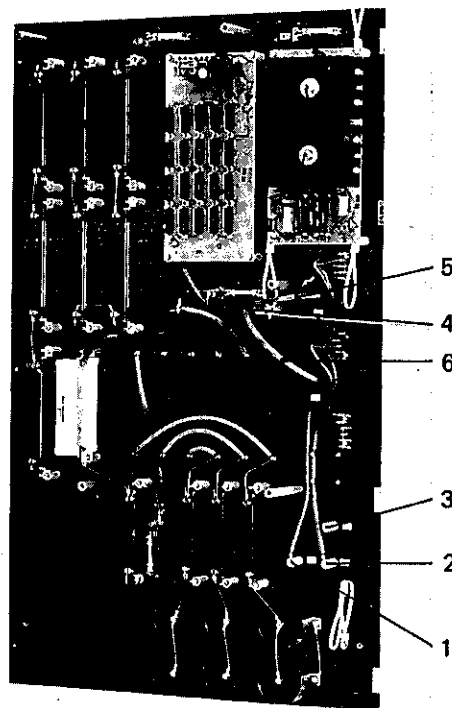

Fig. 8
- The fully insulated center conductor of the HV-cable has to be attached to the high voltage outlet 1 on the high voltage plate (see Fig. 8, item 1).
- The fully insulated center conductor of the HV-cable of source 1 is to be connected to the high voltage outlet 1 (see Fig. 8, item 1); and the one of source 2 has to be conducted to the high voltage outlet 2 (see Fig. 8, item 2) on the high voltage plate.
- Disconnect the connection lines (see Fig. 8, Items 5 and 6) from the HV connection (see Fig. 8, Item 4) through the transducers to the HV-connections 1 and 2.
- from the high voltage point, on the 50 Ω resistor (Fig. 8, item 6) to the common high voltage outlet HVO on the EHU 103.
- From the high voltage outlet HV1 on the EHU 103 through the transducer T5 to the high voltage connection 1 (Fig. 8, item 1). From the high voltage outlets HV2 and HV3, resp., on the EHU 103 through the transducers T6 and T7, resp., to the high voltage connections 2 and 3, resp. (see Fig. 8, items 1.2 and 3).
- Conduct the fully insulated center conductors of the HV-cables to the high voltage connectors and connect them to the corresponding sources (see Fig. 8, items 1,2 and 3).